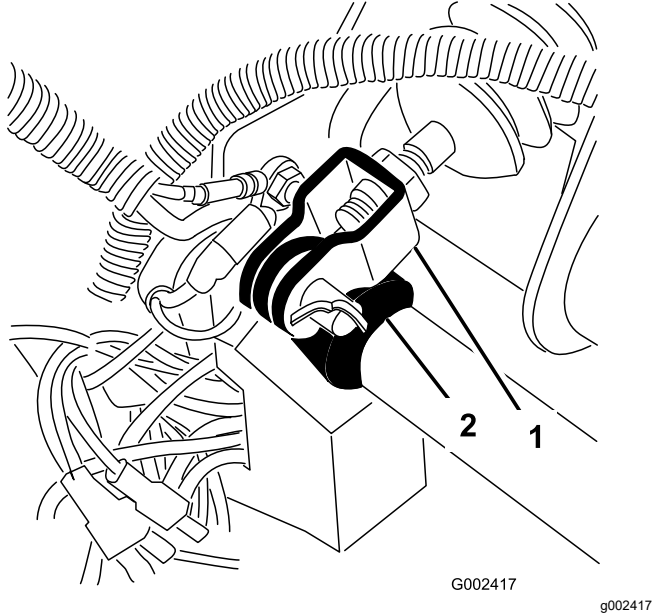

Figure 61
1. Remove the cotter pin and clevis pin securing the master cylinder yoke to the brake-pedal pivot (Figure 61).